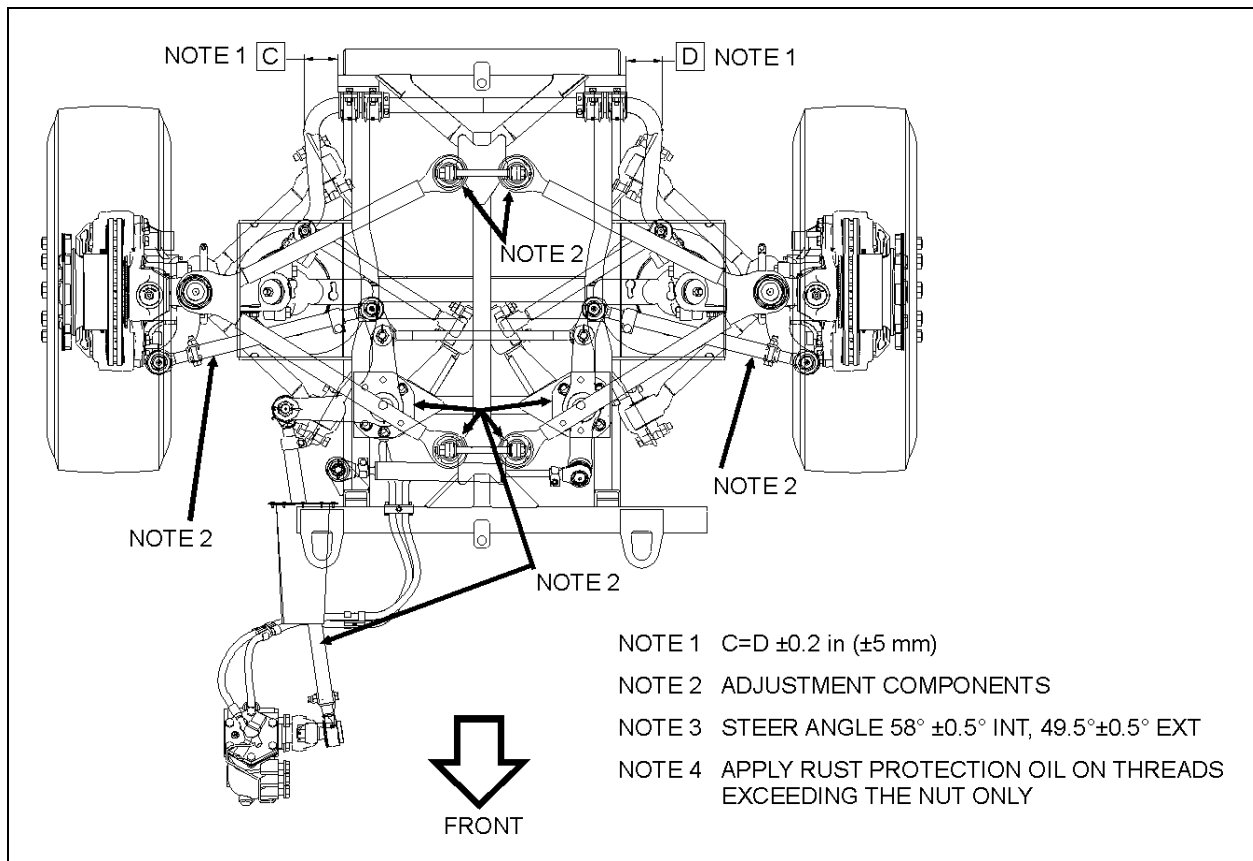

FIGURE 26: NOTE 2 INDICATES WHERE ADJUSTMENT MAY BE PERFORMED IF NEEDED WHEN PROCEEDING TO IFS ALIGNMENT
- Using a pipe wrench, turn the tie rod tubes to obtain the toe-in measurement specified in step 5 under paragraph "Toe-in Check" (figure 26).
Caster variations may be caused by bent upper suspension A-arm, lower suspension A-arm, or kingpin housing. Caster should be adjusted with shims. Precision instruments should be used to measure caster. Shim bell crank and idler arm to adjust caster (figure 26).
See figure 26 & 27.